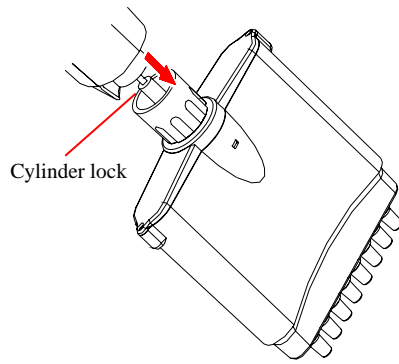

Figure 13: Push the metal cylinder lock downward until you hear a click sound.
4. **Lay the LABNET Excel electronic pipettor down on a flat surface.** Push the metal cylinder lock downward until you hear a click sound as shown in Figure 13.